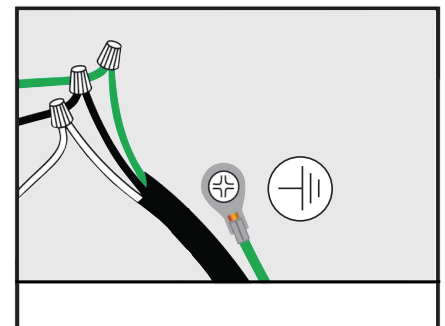

Figure 7
- Connect cable to range hood wiring (see Figure 7).